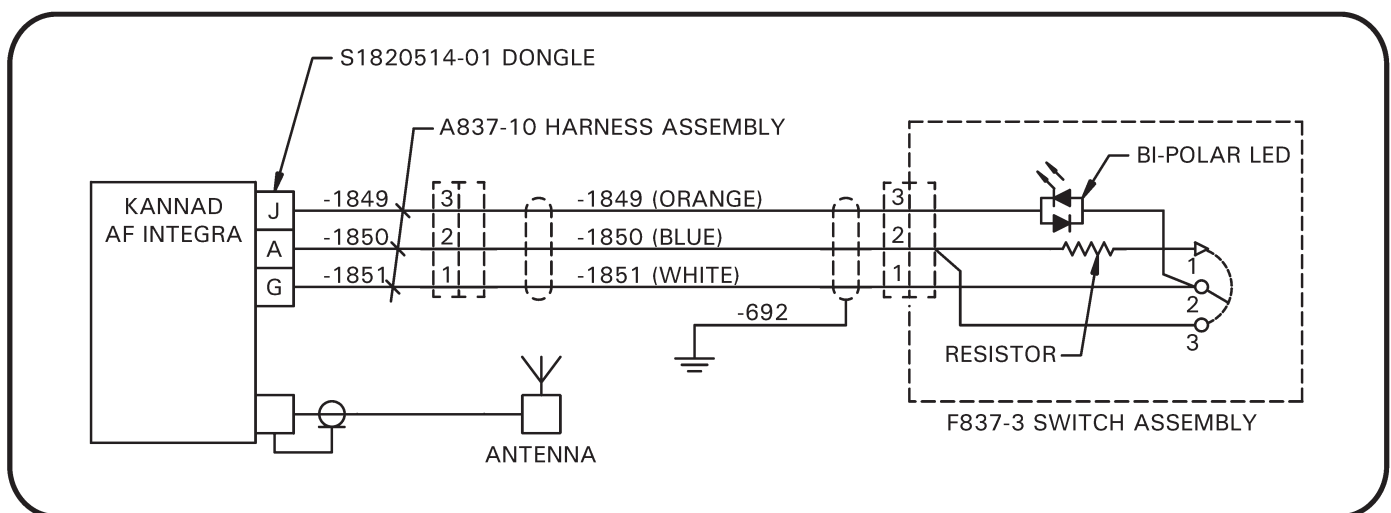

FIGURE 5
10. At forward end of three- or four-conductor shielded & jacketed wire, strip insulation from and crimp a B263-2 socket on each orange, blue, and white wire; if installed, cut green wire flush with shield. Strip insulation and crimp B260-3 terminal on one end of supplied KI-179-1B wire (marked “692”). Strip insulation on opposite end of -692 wire, remove B267-3 terminator’s lead, and heat-shrink terminator and stripped -692 wire to shield. Insert sockets in B263-15 housing per Figure 5.
11. At aft end of shielded wire, strip insulation from and crimp B263-1 pins on orange, blue, and white wires. If shielded wire has four conductors, cut green wire flush with shield. Insert pins in B263-14 housing per Figure 5.